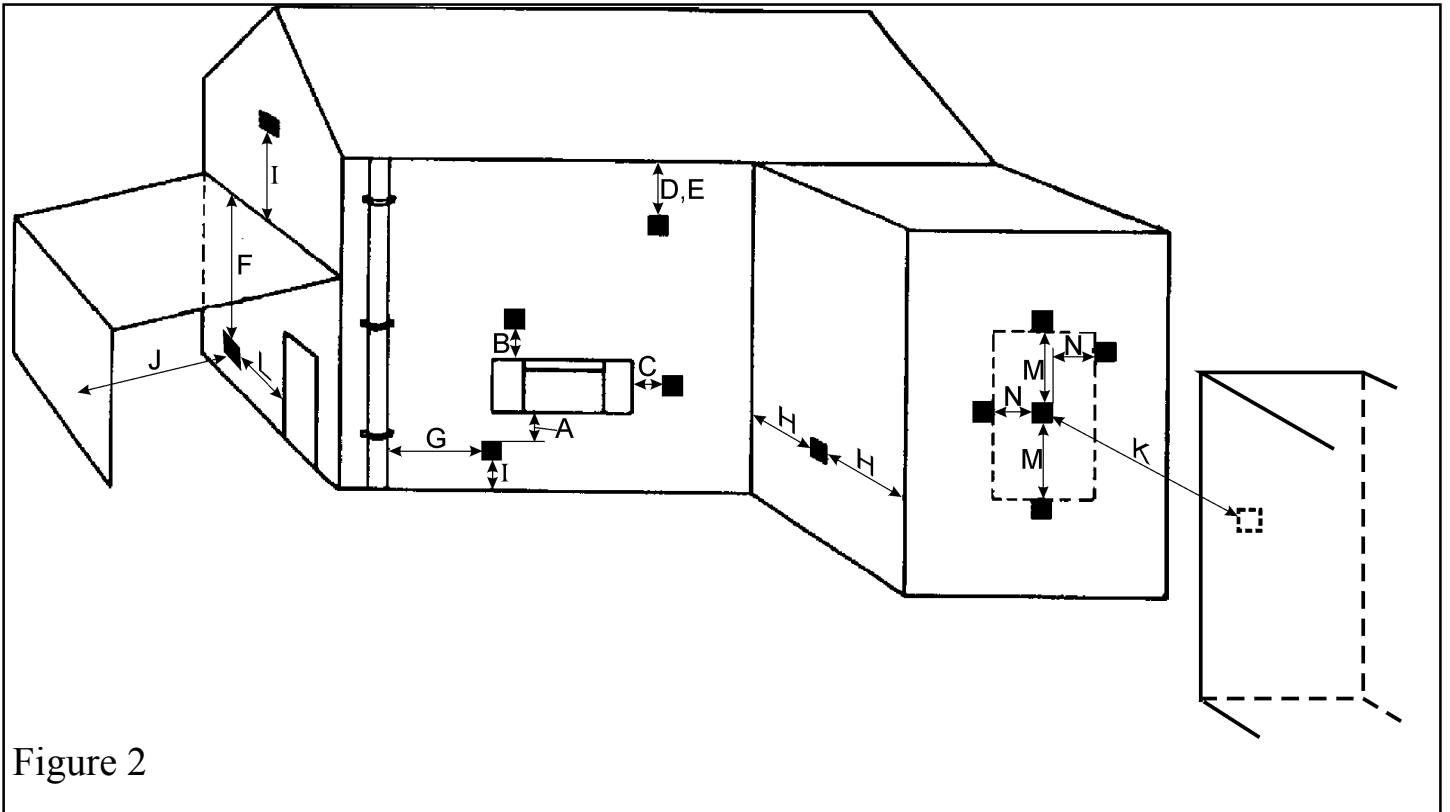

Figure 2
**2.15** Minimum allowable distances from the terminal are shown in table 1 and figures 2 and 2A.